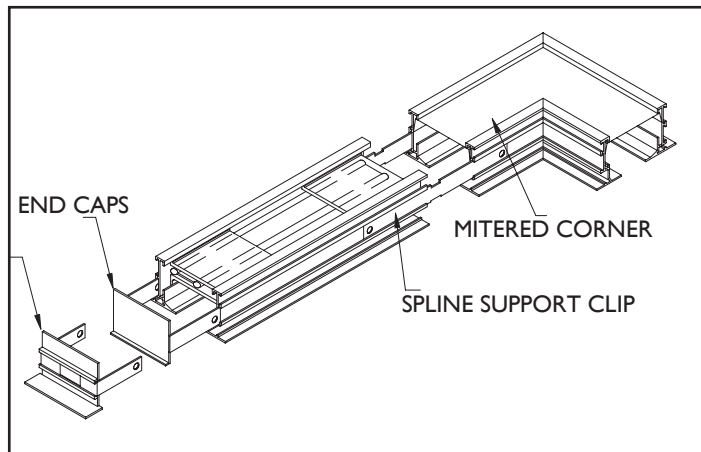

Figure 5. Installation of End Caps & Mitered Corner
- ❑ Install and secure end caps and mitered corners if required as shown in Figure 5.